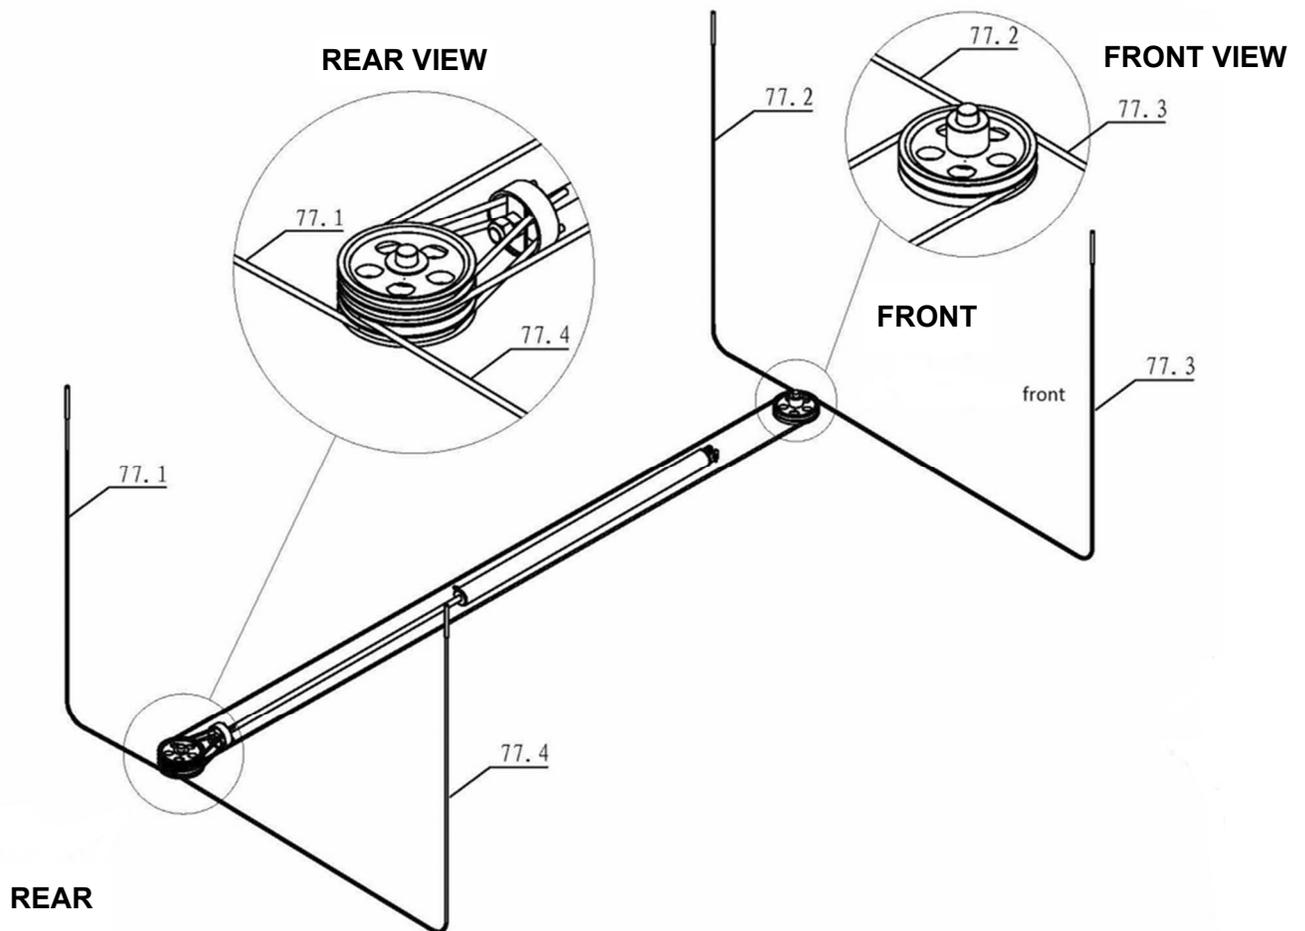

Fig 7
- 6) Slide the cables from the ends of power-side runway and route the cables through the crossbeams referring to the routing diagram in **Fig 7**.
- 2) Press the START/UP button on the motor to slightly raise lift, but only until the steel cables are tensioned in each Post, then release START/UP button. **IMPORTANT:** Inspect & confirm the steel cables are properly engaged in grooves of all cable pulleys - Ref. Figs 7 & 8.